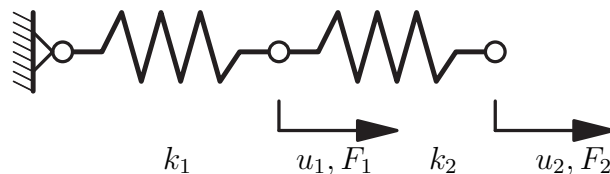

Figure 2: 2 degree of freedom system
- (a) Derive the expression for the total potential energy of the system constructed from 2 springs shown in Figure 2. The stiffness of the springs are k_1 and k_2 , the displacement and load at the two nodes are u_1, F_1, u_2, F_2 , respectively. Write down the expression for \mathbf{K} for this system.